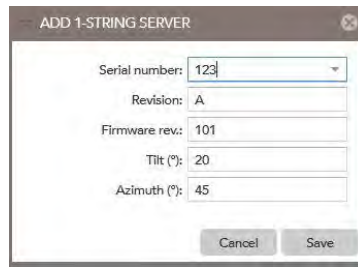

Figure 53: Add String Readers.
- There should open a window according to Figure 53. Choose the right String Reader out of the drop-down menu. Orientate yourself on the documentary created by you.